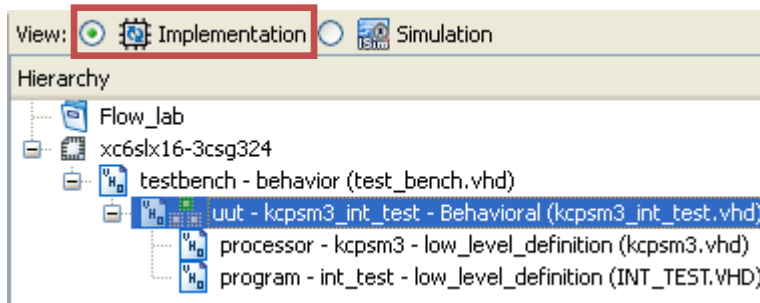

Figure 15. Sources Window Pane
- 5-1-1. In the Sources in Project window, select **Implementation** in the Sources pane and select the top-level design file **kcpsm3_int_test.vhd/v** (Figure 15).